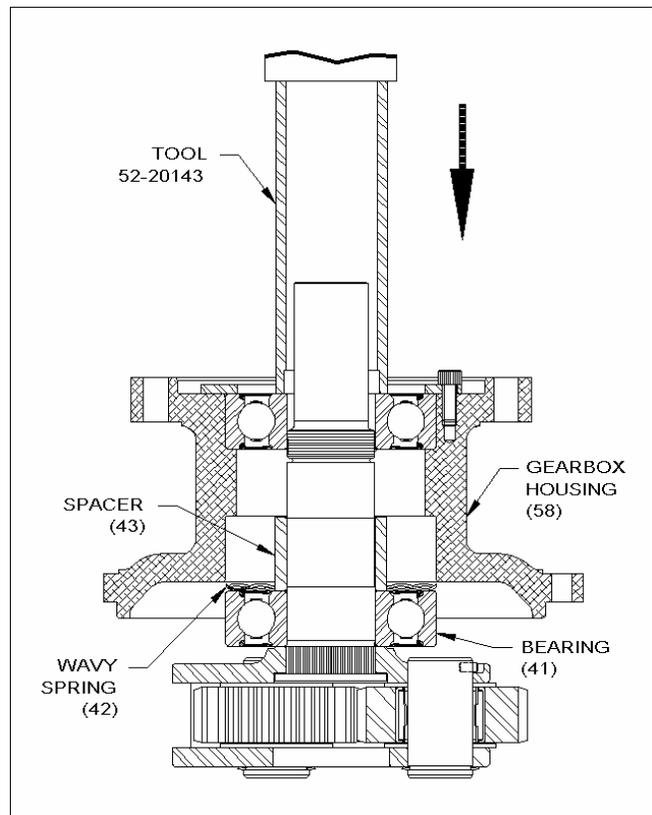

Figure 24. Installing Carrier Shaft into Gearbox Housing
Position carrier shaft assembly (35,41,42,43) into bearing bore of the gearbox housing (58). Lift up on housing and slide shaft down. If shaft will not slide into bearing bore, press housing per *Figure 24* until bearing is seated (41).